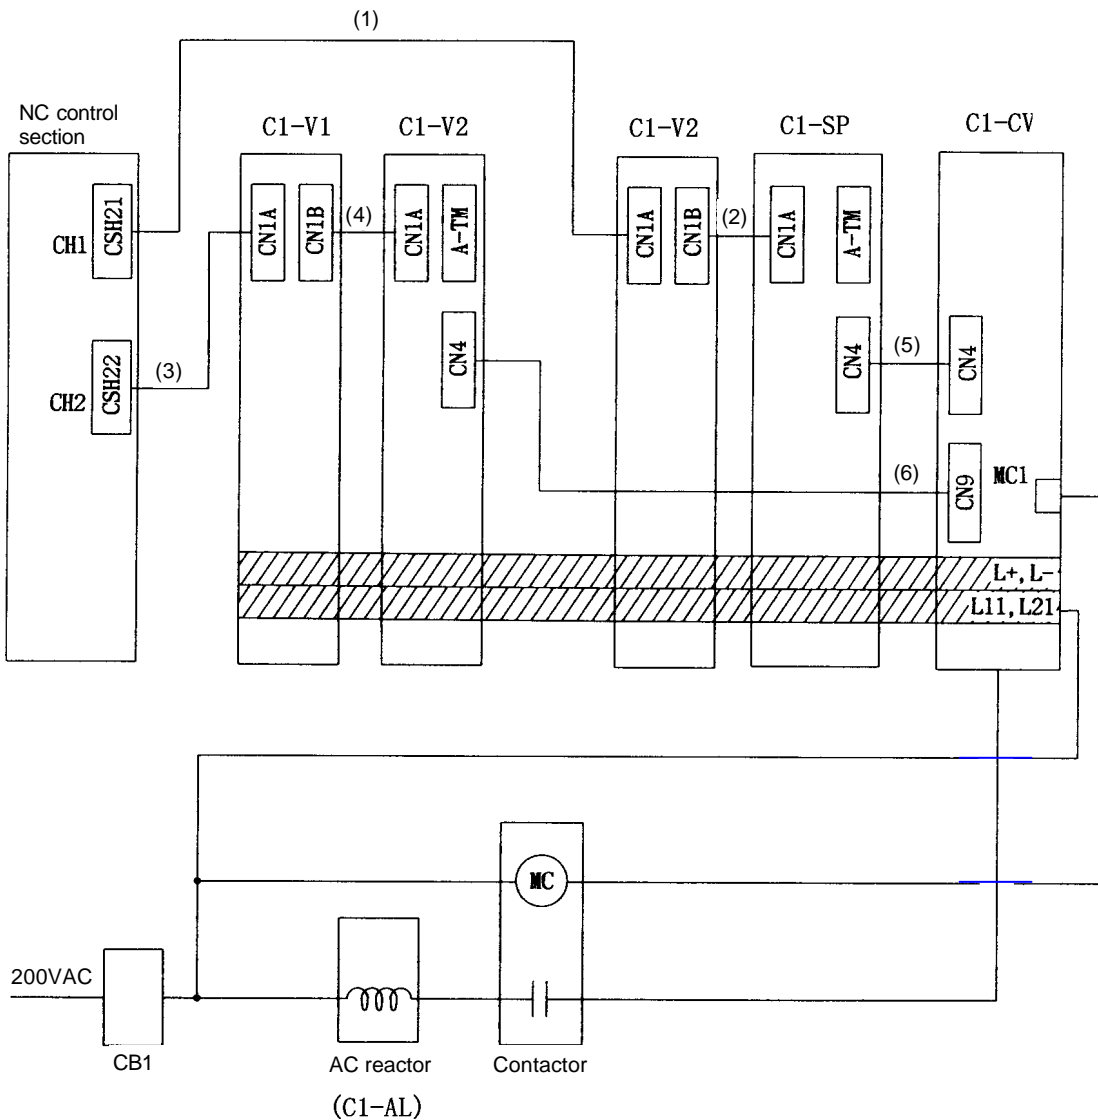

Fig. 2
Connect with the lines (1) to (2) shown in Fig. 2.
Connect with the lines (3) to (4) shown in Fig. 2.
Connect from the CH1 terminating axis (C1-SP in Fig.2) with the line (5). The pin assignments for cable (5) are the same as the standard specifications. (Refer to section "5.2.1".)
Connect from the CH2 terminating axis (C1-V2 in Fig. 2) with the line (6). The pin assignments for cable (6) are the same as the standard specifications.